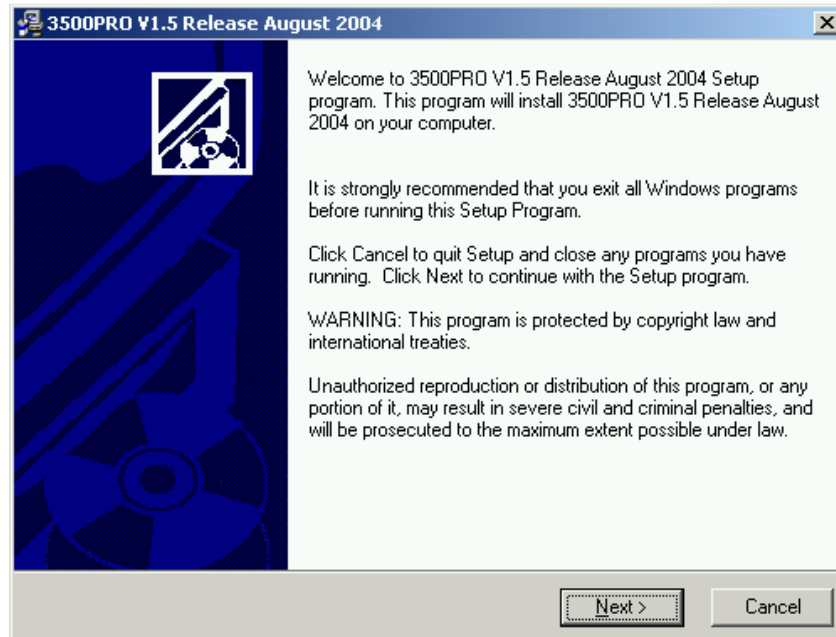

Figure 11: 3500Pro Install Greeting Window
5. After installation of the MSDE2000, the actual 3500Pro/3500ProLE components are installed. This portion of the install displays a greeting window (see Figure 11) indicating that you have reached the portion where the actual 3500Pro/3500ProLE is installed.